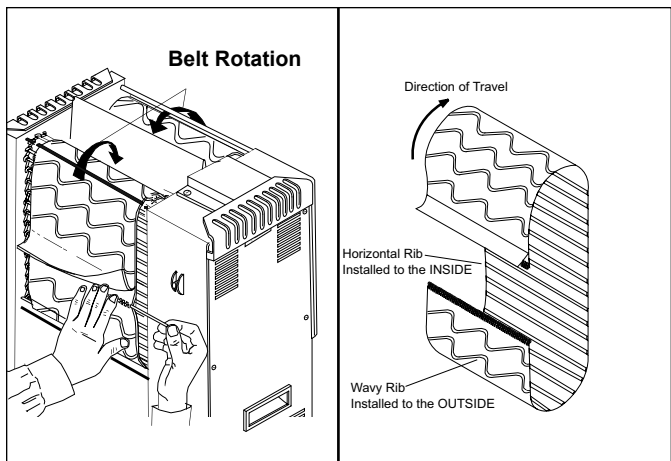

Figure 17. Correct Groovy Belt Wrap Installation
2. Install the new belt wraps with the “zipper” flap hanging down and the wavy lines facing out, as shown in in Figure 17.